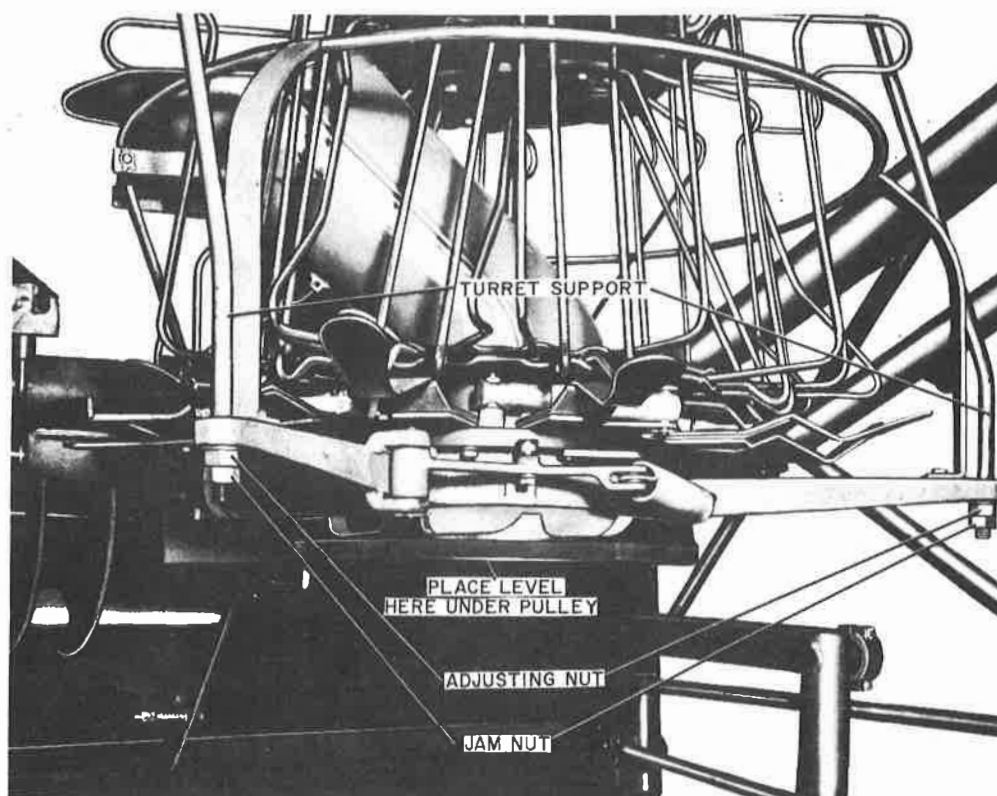

Figure 88. Turret Adjustment
35. TURRET LEVEL ADJUSTMENT. (FIGURE 88)